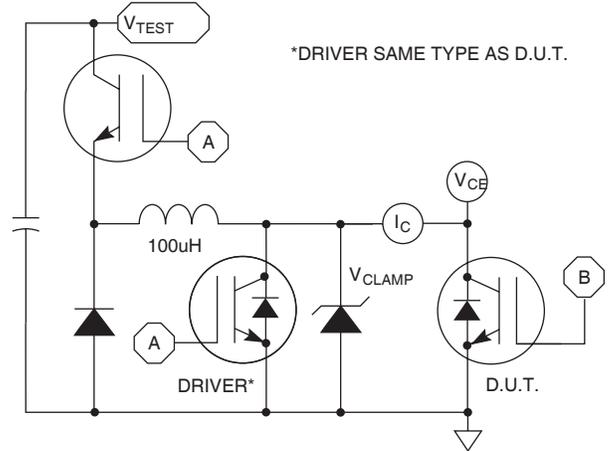

Figure 24, EON1 Test Circuit
① Repetitive Rating: Pulse width limited by maximum junction temperature.
② For Combi devices, I_{ces} includes both IGBT and FRED leakages
③ See MIL-STD-750 Method 3471.
④ E_{on1} is the clamped inductive turn-on-energy of the IGBT only, without the effect of a commutating diode reverse recovery current adding to the IGBT turn-on loss. (See Figure 24.)